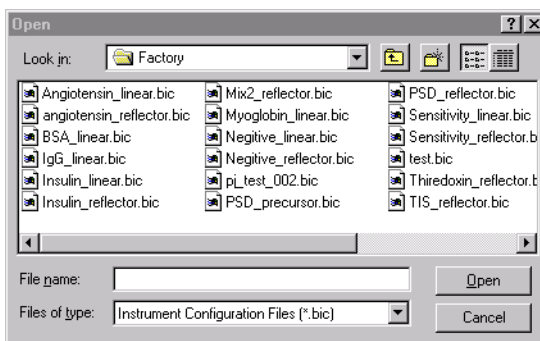

Figure 4-2 Open Dialog Box
1. Select **Open Instrument Settings** from the File menu in the Instrument Control Panel. The Open dialog box is displayed (Figure 4-2).